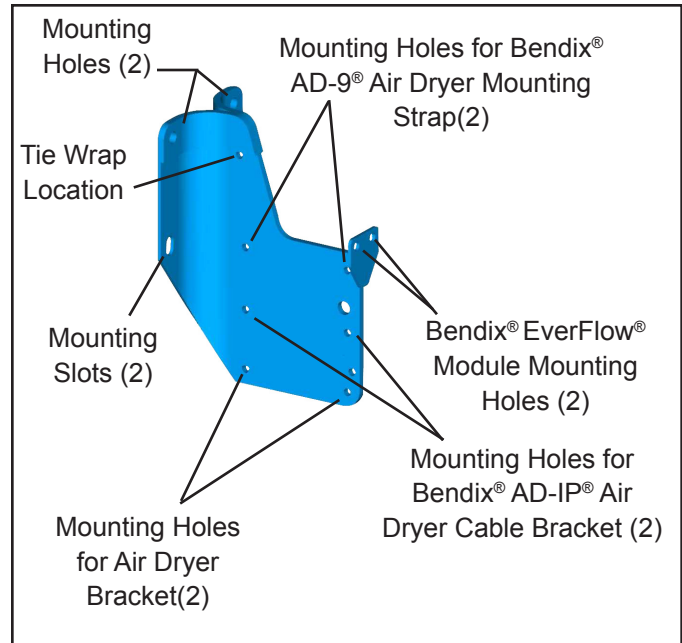

FIGURE 4 - BENDIX® EVERFLOW® MOUNTING BRACKET
1. Remove the tie wraps that secure the EverFlow wiring to the mounting bracket. See Figure 4.